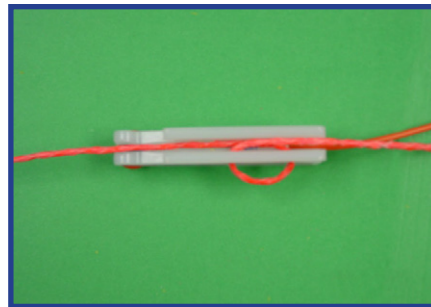

Figure 42 - Step 2, cord around one cleat and back in center groove.
2. Wrap the PRIMACORD 2 around one cleat of the MSConnector and back up the center groove (Figure 42).